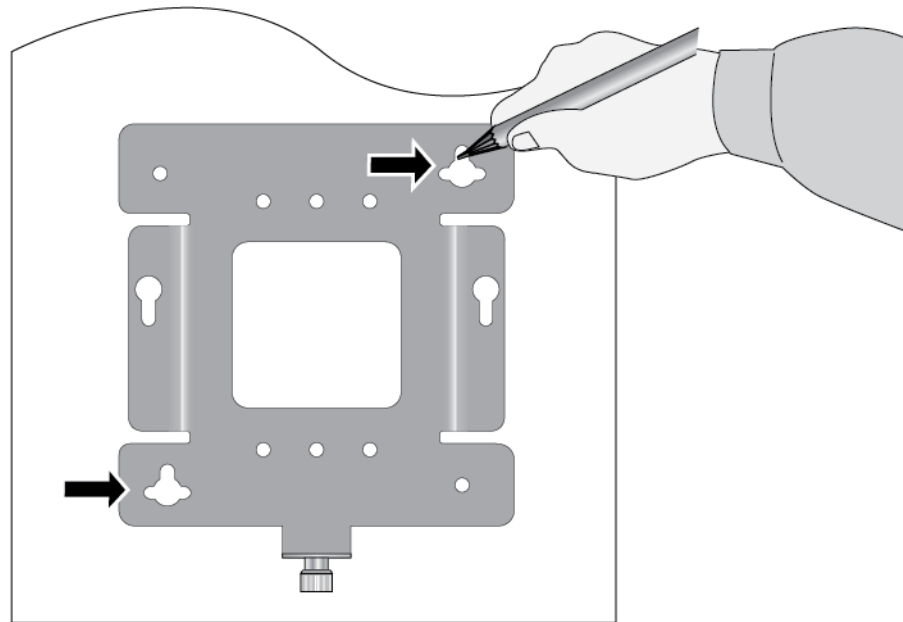

Figure 15. Marking the Holes for the Key-Hole Slots
3. With a pencil, mark the wall or ceiling with the two key-hole slots of the bracket. Refer to Figure 15.